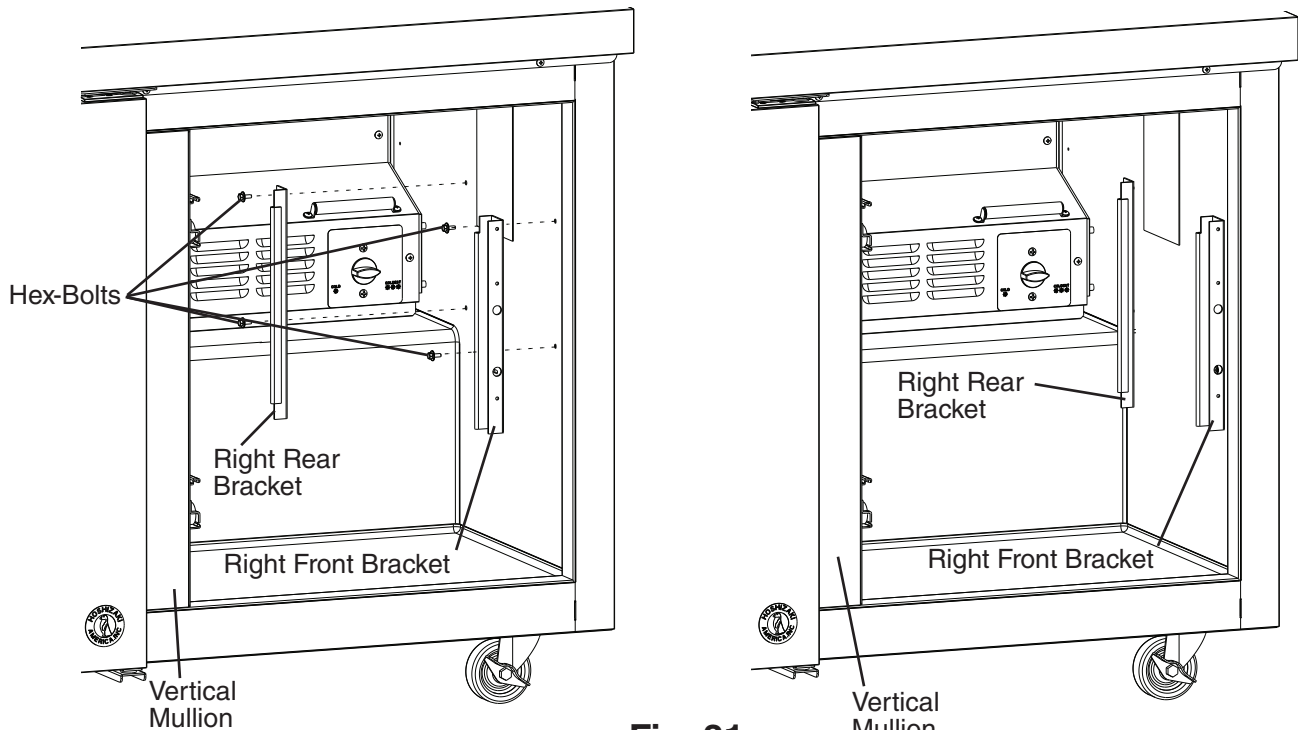

Fig. 31
23) Place the right rear bracket in place on the right side panel with the hex-bolts removed in step 4. Leave loose, do not tighten at this time. See Fig. 31.
24) Place the right front bracket in place on the right side panel with the hex-bolts removed in step 4. Leave loose, do not tighten at this time. See Fig. 31.